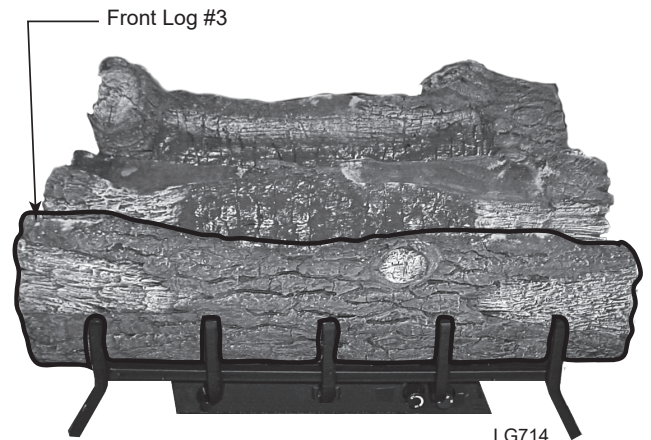

**Figure 24 -
1. Place Rear Log (#1) on rear support. *Figure 24*